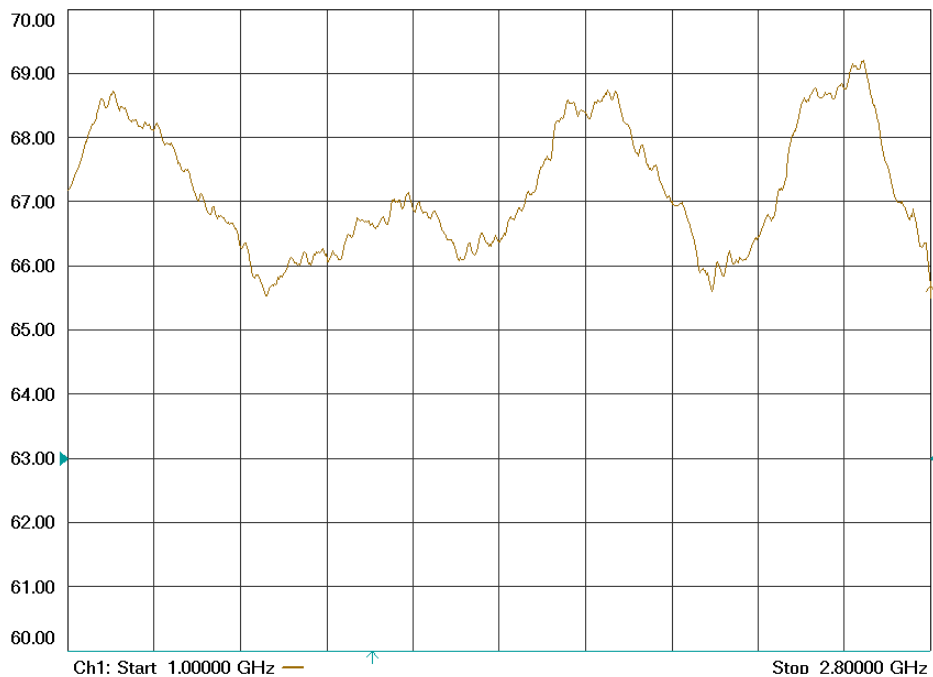
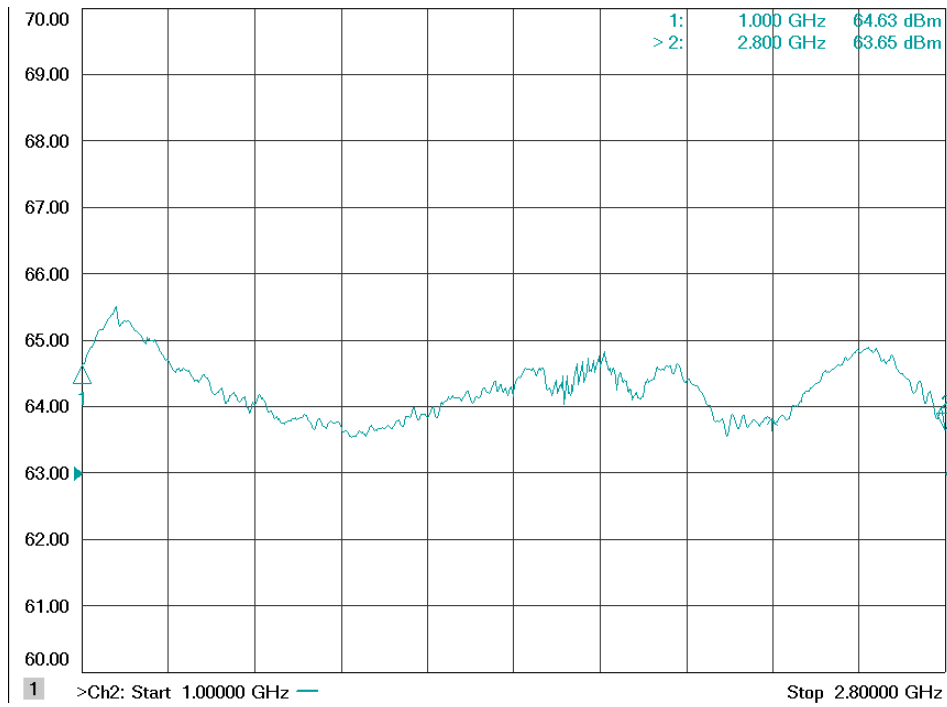

Figure 4-1. Typical Response at -20 dBm Input
Figure 4-2. Typical Response at 0 dBm Input
- The Model 2000S1G2z8's typical gain response at -20 dBm input and 0 dBm input is shown in Figures 4-1 and Figure 4-2. The actual gain may vary considerably from that shown in these figures but should be ≥ 65 dBm at -20 dBm input and ≥ 63 dBm at 0dBm input.